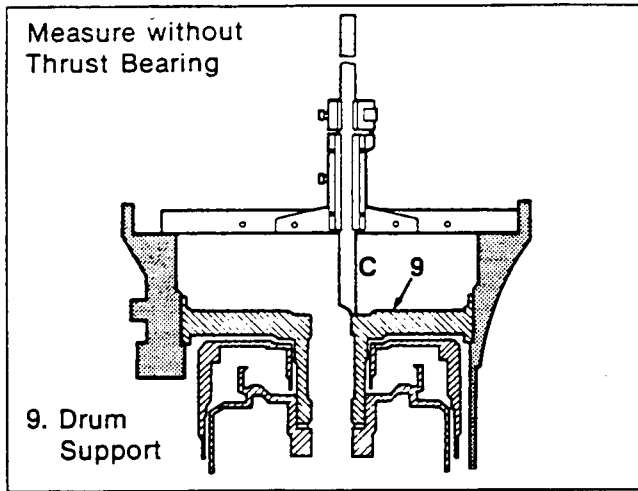

Figure 274. End Play Measurement (3)
6. Measure "C" without thrust bearing (figure 274).